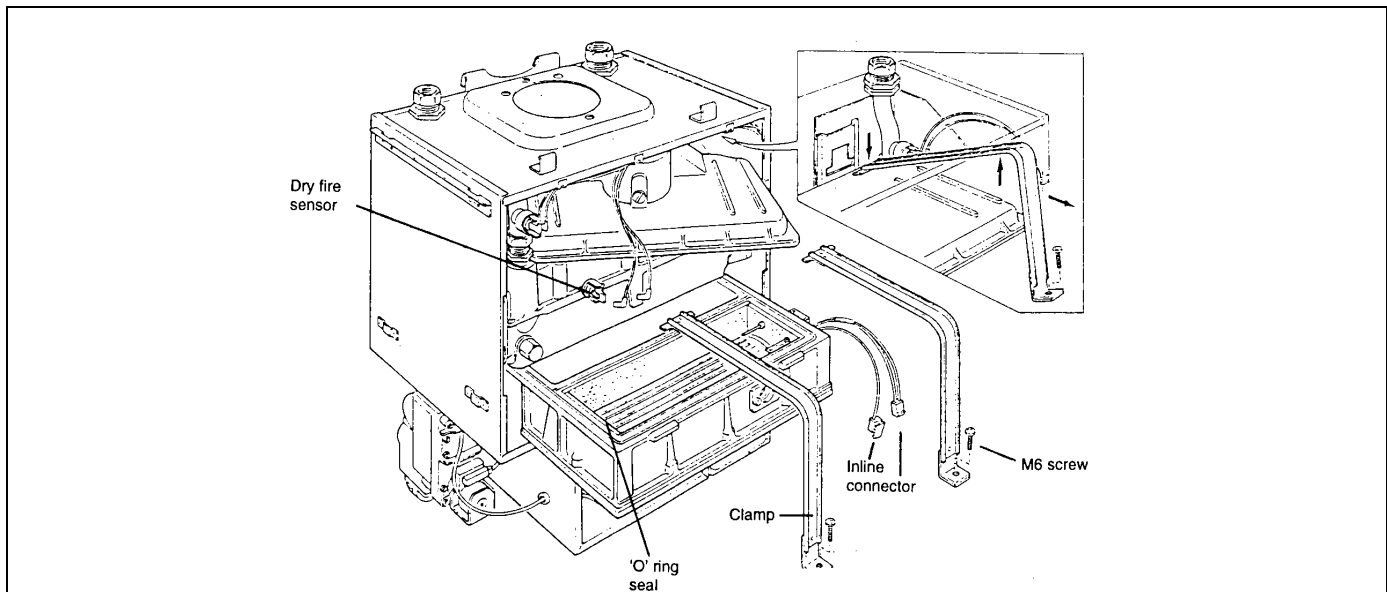

FIG. 17 REMOVING CLAMPS
- 6) Disconnect inline connectors for the hot surface igniter and the flame sensor on the right hand side of the combustion chamber. FIG. 17.
- 7) Remove two M6 screws retaining clamps around flue hood and combustion chamber. FIG. 17.
- 8) Remove the top clamps from their anchor points at the rear of the casing. FIG. 17.
- 9) Disconnect electrical connections from dry fire sensor. FIG.17.
guide the hood around the flow tapping on the heat exchanger. FIG. 17.
- a) Remove combustion chamber as described in “**Servicing Boiler**”. See FIG. 17.
- a) Remove combustion chamber/fluehood as described in “**Servicing Boiler**” See Fig.17.